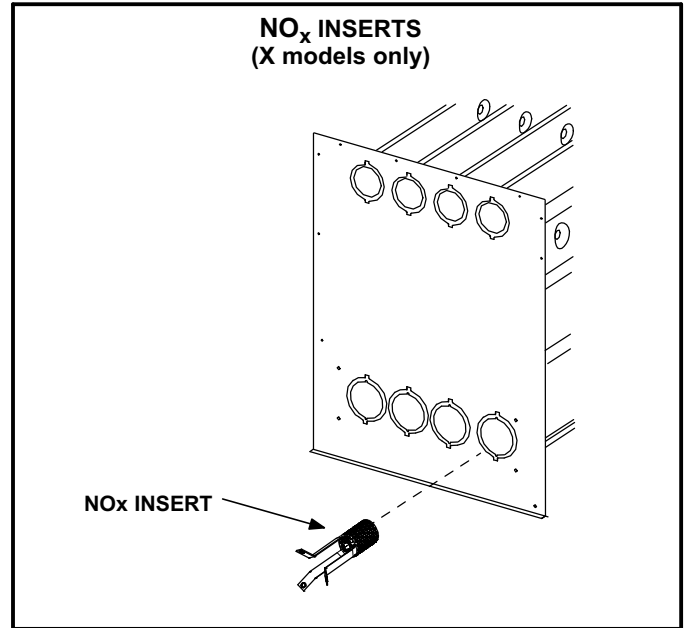

FIGURE 27
- 11 -**NOx units only** - Remove the three screws that attach the **NOx** insert to the corbel at the entrance to each heat exchanger section. Carefully remove the **NOx** insert from each section. See figure 27.
- 19 -**NOx Units** - Reattach the **NOx** inserts to the corbels at the entrance to each heat exchanger opening. See figure 27.